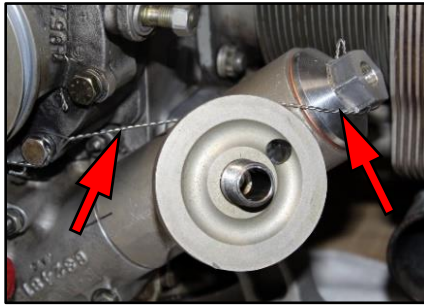

Figure 11
- a. spool to the engine (Figure 11) and;